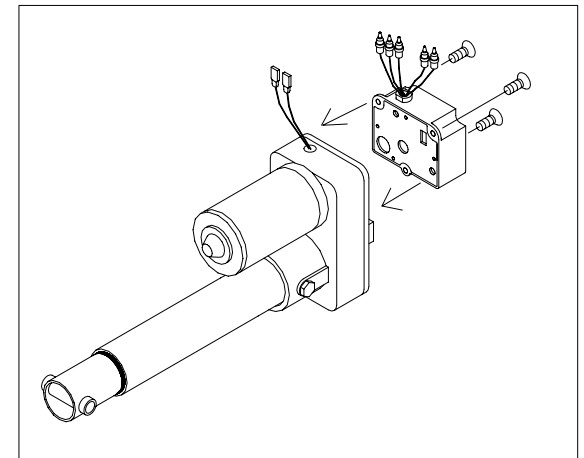

Figure 7. Reassemble the incline set.
8. Place the VR box on the incline motor as shown in Figure 7. Tighten the screws.